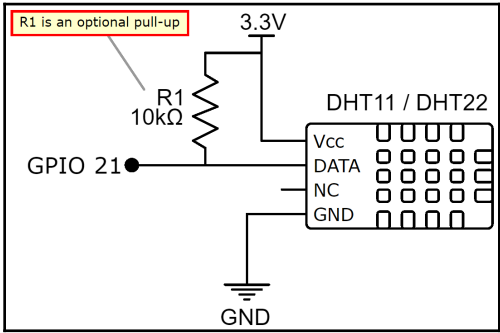

Figure 9.2 – DHT sensor schematic
We will begin by creating the circuit illustrated in *Figure 9.2* on our breadboard:
2. Place the 10kΩ resistor (R1) into the breadboard. One end of the resistor shares the same row as the DHT sensor's DATA pin. We will discuss this resistor and why it's marked as optional in *Figure 9.2* after we complete the circuit build.